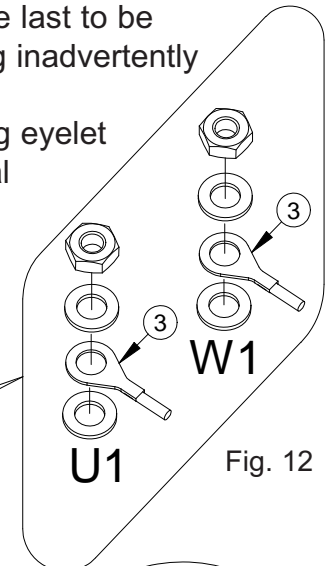

Fig. 12
b) The cable conductors are required to be fitted with M4 ring eyelet connectors as shown in Figs. 12 and 13 (item 3), a special crimping tool is required to secure the eyelets to the conductors.